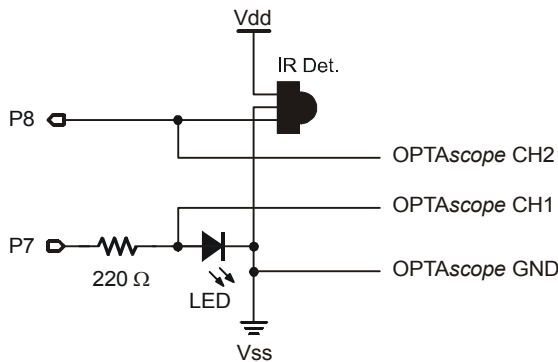
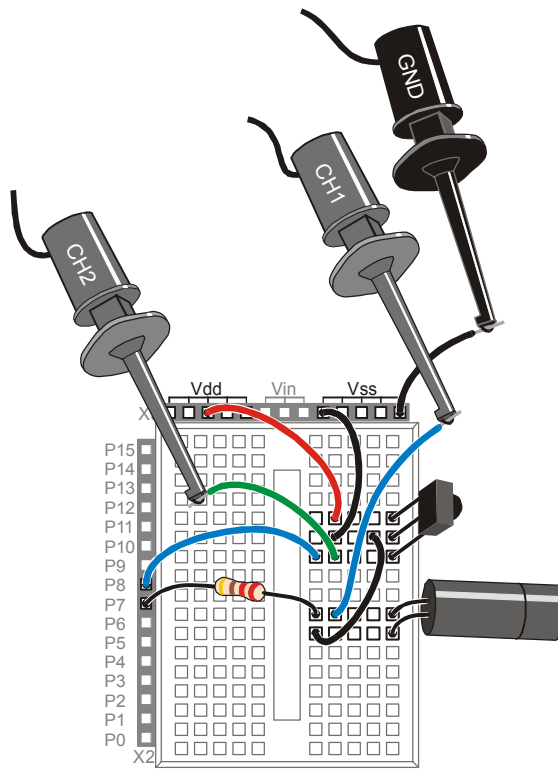

Figure 7-3:
Figure 7-4:
- ✓ Build the circuit shown in Figure 7-3 and Figure 7-4. If you are using a BASIC Stamp HomeWork Board omit the 220 Ω resistor and make the necessary connection with a jumper wire.